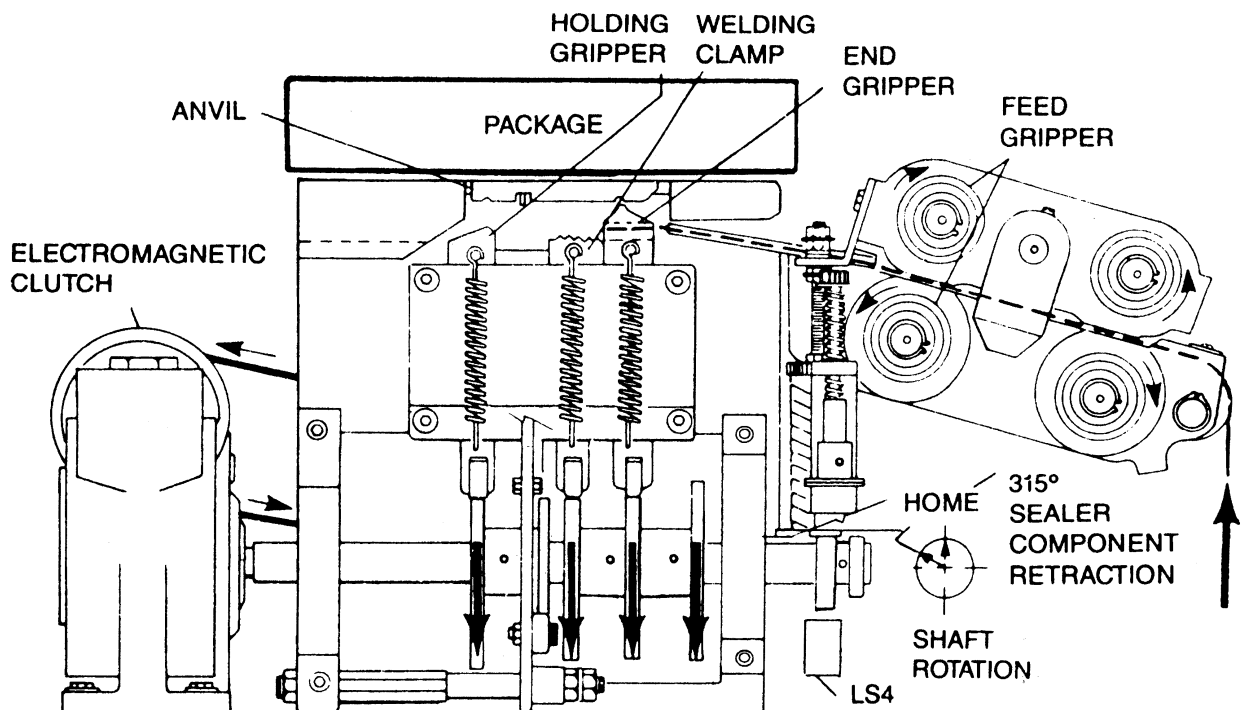

FIGURE 20. WELDED STRAP IS RELEASED; HEAD IS IN HOME POSITION ; STRAP FEEDS
3. Position LS3 as shown in Figure 20. When set, tighten the mounting screws.